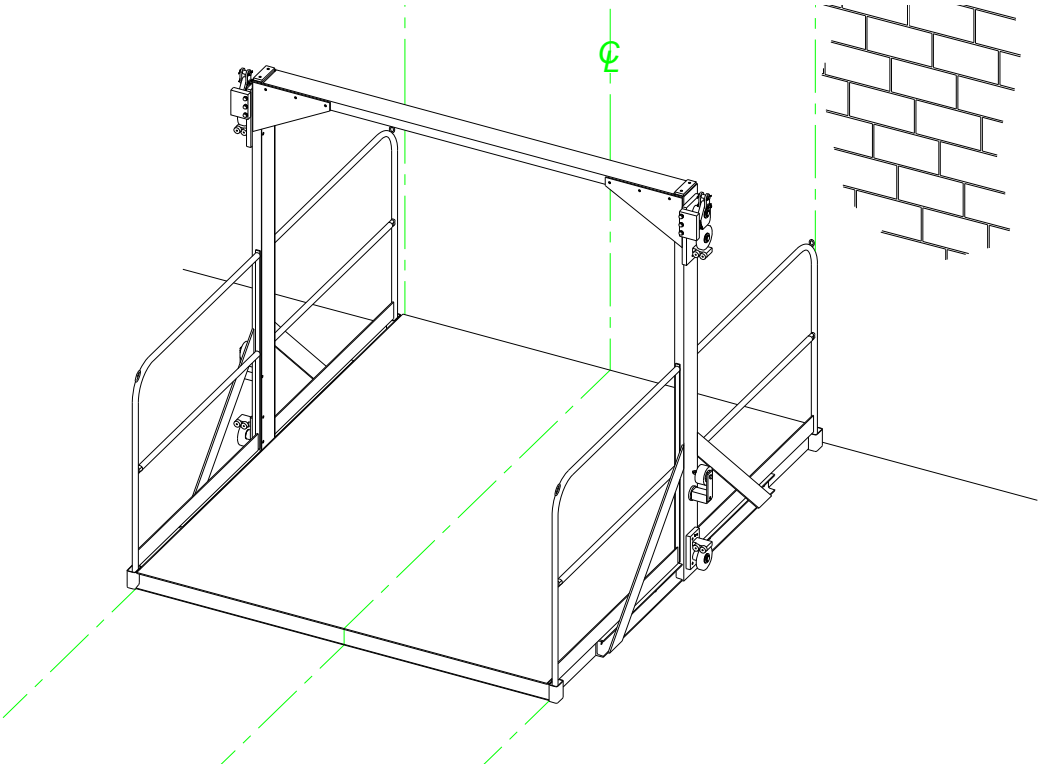

Figure 16 Aligning the Carriage with the Chalk Lines
B. CARRIAGE ASSEMBLY (Reference Figures 16 through 18)
6. Set the carriage onto the floor at the lower level position as shown on the General Arrangement (GA) Drawing. The center of the carriage must be aligned with the “B” mark (refer to **Figure 16**). Make sure carriage is level, shim as necessary.